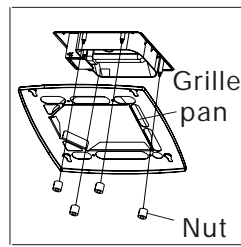

Fig.20
6. Locate the grille unit over the fan housing, Screw the nut into the bolt. (Fig.20)